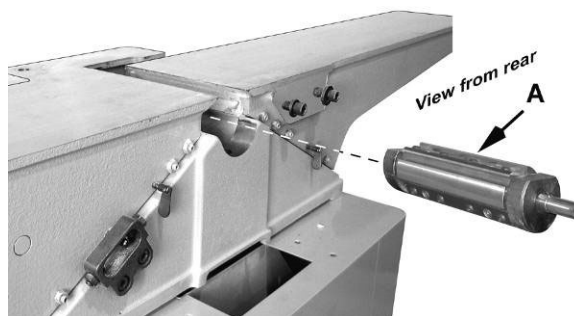

Figure 48
11. Carefully remove the cutterhead (A, Fig. 48).